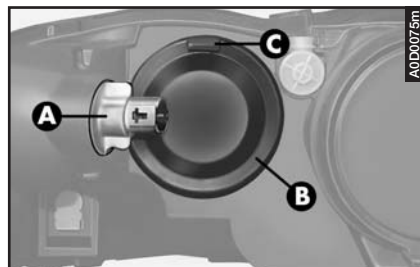

fig. 42
- Turn counter-clockwise and remove the direction indicator bulb holder (**A-fig. 42**) without disconnecting the connector to widen the working space.